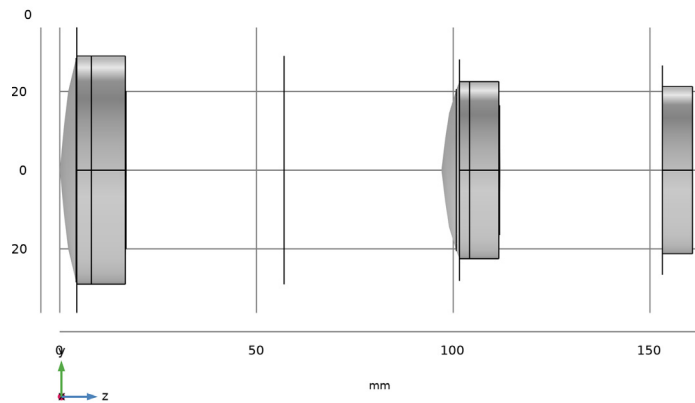
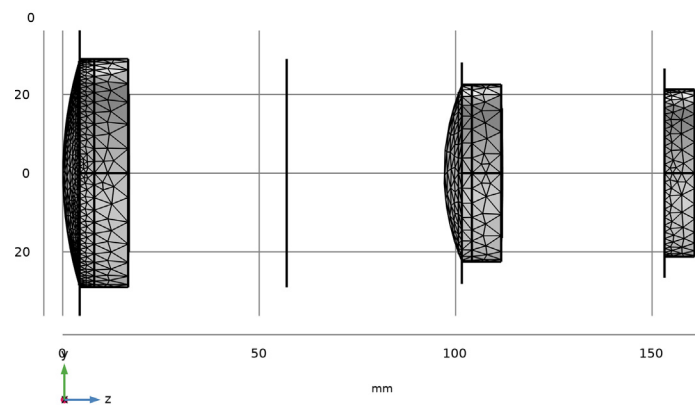

Figure 2: The Petzval lens geometry sequence.
Figure 3: The Petzval lens mesh.
The Petzval lens geometry sequence is shown in Figure 2 and the mesh can be seen in Figure 3.
- 9 In the **Graphics** window toolbar, click ▼ next to  **Go to Default View**, then choose **Go to ZY View**. This will orient the view to place the optical axis (z -axis) horizontal and the y -axis vertical. Compare the resulting geometry to Figure 2.